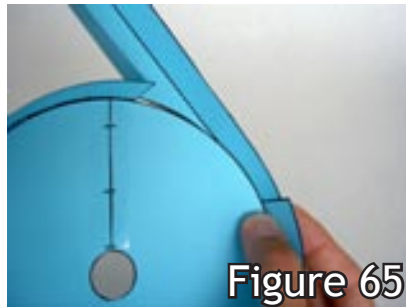

Figure 65
14. Tape the longer wall to the wall of the funnel, making sure that the curve of the “funnel entry” matches the curve of the “funnel floor.” (fig. 65)